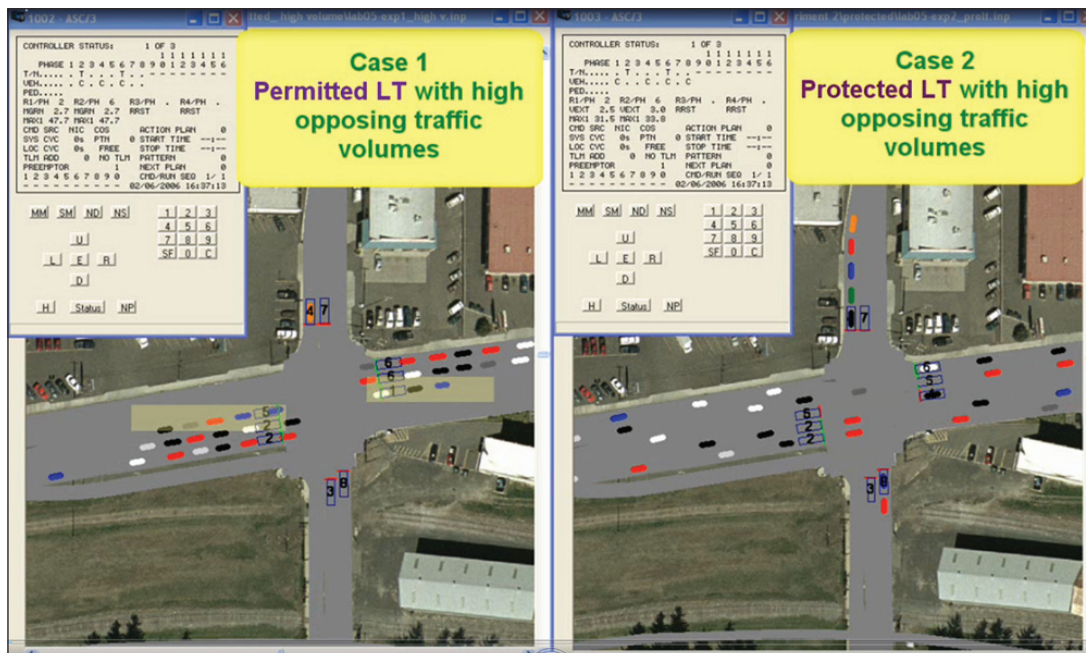

Figure 167. Animation comparing permitted and protected left turn phasing
- Observe the left turn vehicles on the eastbound and westbound approaches for case 1 (permitted left turn) and case 2 (protected left turn). Observe the queue length for the eastbound left turn and westbound left turn movements for case 1 and the waiting time for those vehicles. Observe the same vehicles in case 2 and notice how all vehicles are served during the protected left turn. (See Figure 167.)